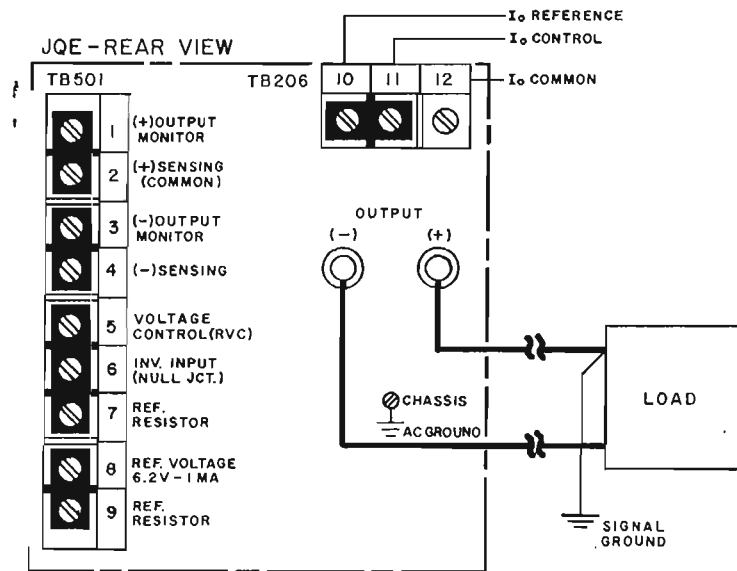

FIG. 3-4 LOAD CONNECTION, METHOD I, WITHOUT ERROR SENSING.
The Power Supply is shipped from the factory with five (5) removable jumper links in place at the rear barrier-strip (TB501) and one (1) link on rear barrier-strip (TB206—JQE models with Suffix "Y" only), as shown in FIG. 3-4. THESE LINKS MUST BE IN PLACE AND SECURED TIGHTLY for standard local operation. Loose terminal links or wires at the barrier strips will cause malfunction of the power supply.
3-18 (Refer to FIG. 3-4.) The most basic power supply interconnection, to mainly resistive, relatively constant loads, located close to the power supply, or for loads requiring stabilized current exclusively consists of a 2-wire connection from the rear output binding-post terminals. Load wire is selected as described previously (refer to par. 3-14). The load leads should be tightly twisted to reduce "pick-up" from stray magnetic fields. After the grounding rules have been applied (refer to par. 3-7 to 3-10), the power supply can be connected to the a-c source and operation may commence.